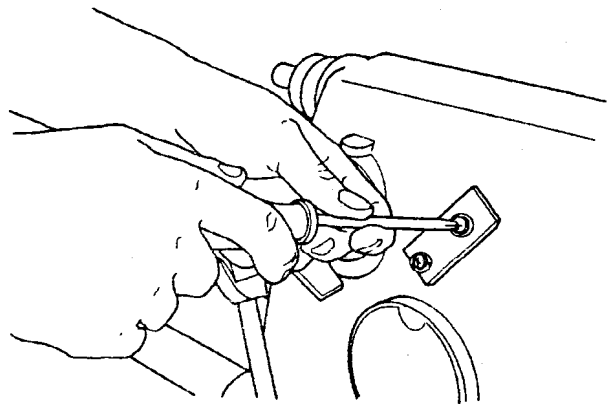

Fig. 6
11. Use a medium Phillips screwdriver to tighten the self-tapping screws. See Fig. 6.